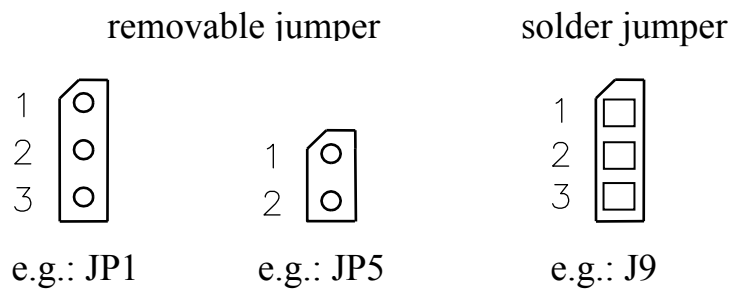

Figure 14: Typical Jumper Numbering Scheme
The phyFLEX Carrier Board comes pre-configured with removable jumpers (JP) and solder jumpers (J). The jumpers allow the user flexibility of configuring a limited number of features for development constraint purposes. Table 40 below lists the jumpers, their default positions, and their functions in each position. Figure 14 depicts the jumper pad numbering scheme for reference when altering jumper settings on the development board.